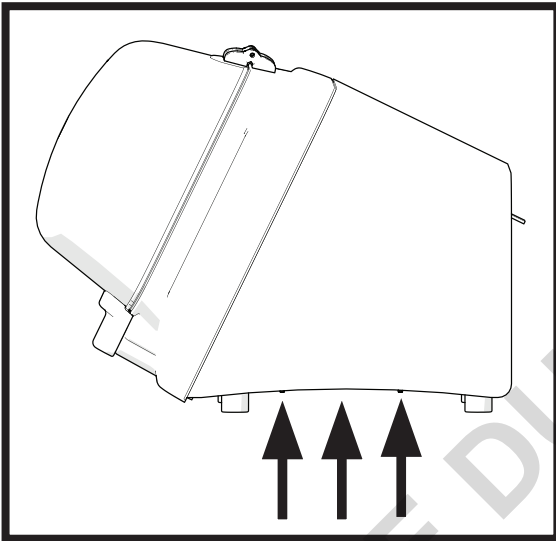

Figure 7
2. Remove (6) screws on underside of housing on each side (Figure 7), slide unit to edge of the work surface to make access possible.